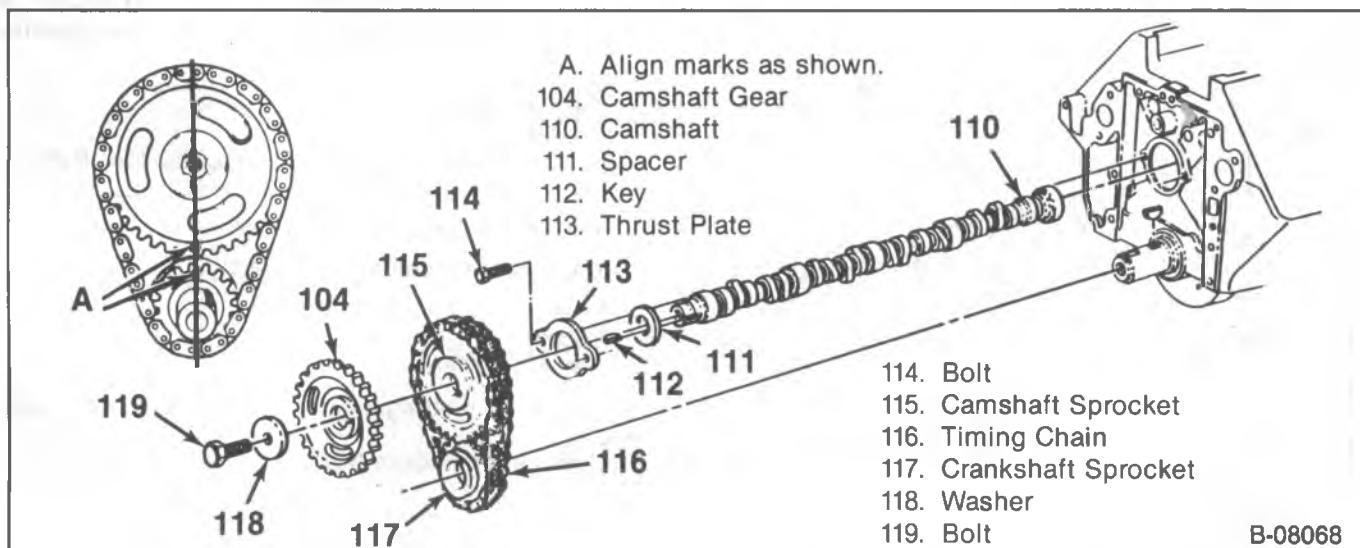

Figure 40—Camshaft and Components
Install or Connect (Figure 40)
- Align the timing marks (figure 40).
3. Camshaft gear (104), washer (118) and bolts (119).